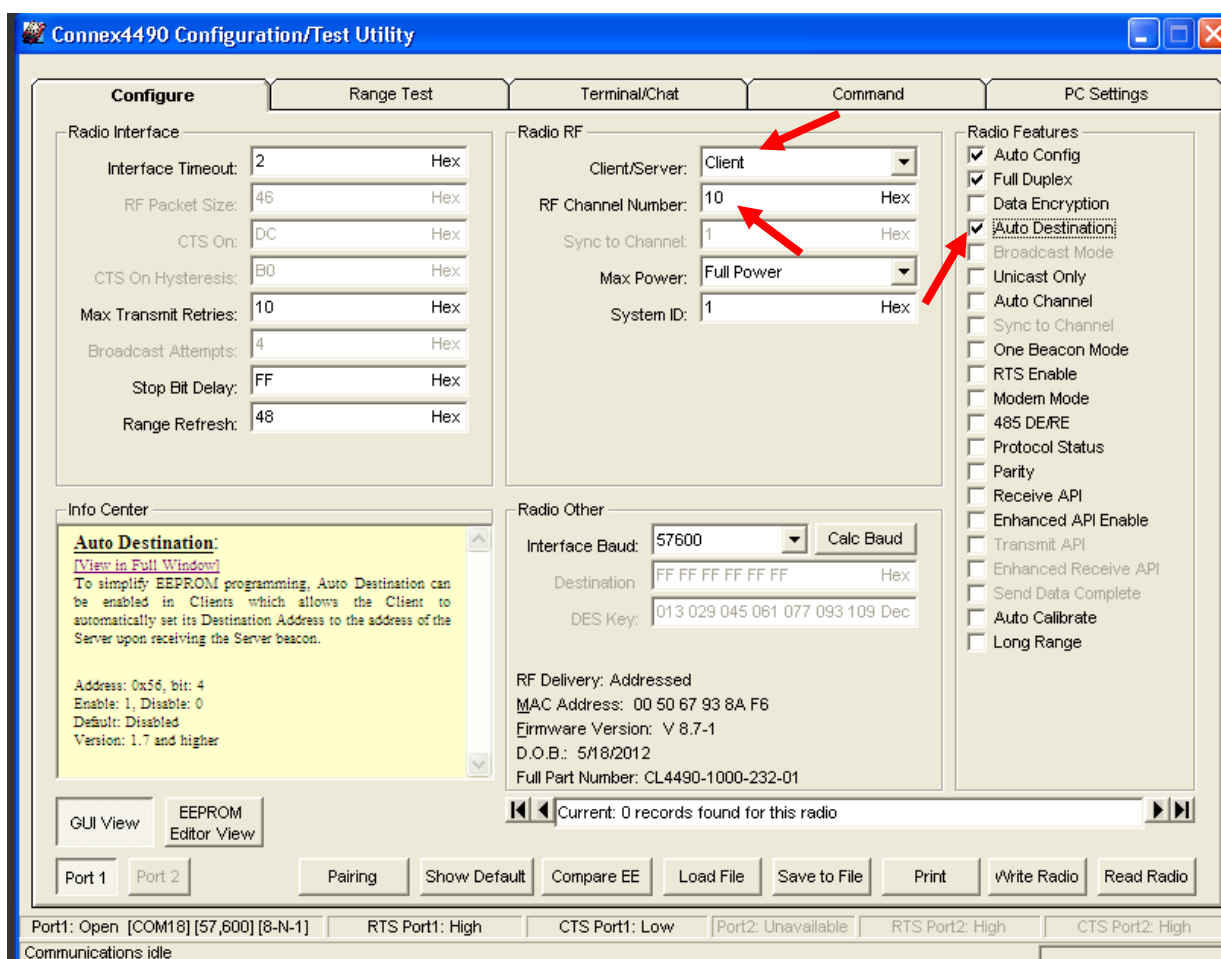

Figure 11: Client settings
- Configure all clients that will communicate with the Hop Master Server as clients in Auto Destination and with the same RF Channel Number as the Hop Master Server (Figure 11), and then press the **Write Radio** button.